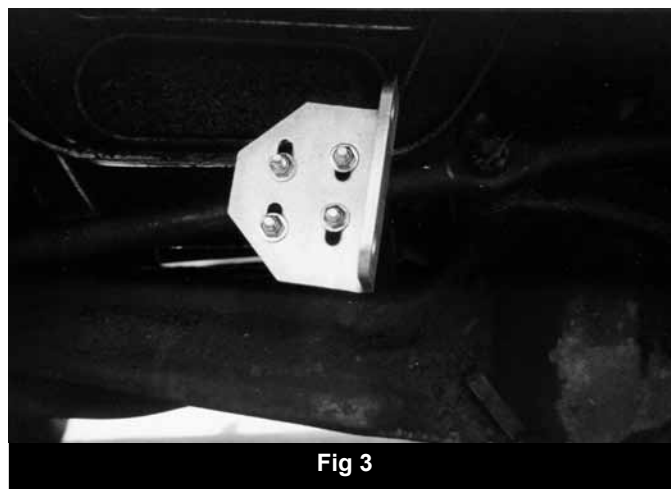

Fig 3
8. Attach the tie rod bracket to the tie rod with the two 5/16" x 1-1/4" x 2" U-bolts, nuts and washers (Fig 3). Leave the bracket loose for adjustment.